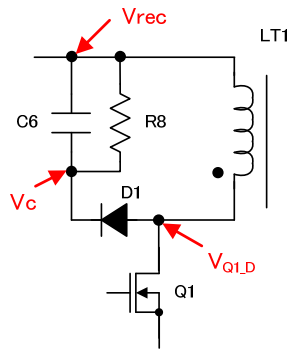
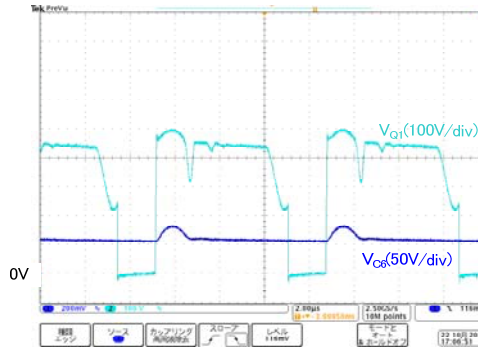

Fig.40 Snubber circuit
Fig.41 MOSFET drain voltage and snubber circuit voltage
The snubber circuit prevents the external power MOSFET from being destroyed by the energy stored in the transformer leakage inductance when the external power MOSFET is turned off. The snubber circuit used in this example is shown in Fig. 40, and the MOSFET drain voltage and the snubber circuit voltage when the MOSFET is off are shown in Fig. 41.
As shown in Fig. 41, the drain voltage rises steeply when the MOSFET is turned off, but the snubber circuit limits the drain voltage rise and prevents destruction of the MOSFET.
In an isolated flyback circuit, the flyback voltage that occurs during MOSFET off time and the snubber voltage are applied to the MOSFET in addition to the AC input. (Refer to Fig. 41.) The maximum voltage V_{Q1} that is applied is given by Equation (30), and thus a product with a rated voltage higher than that must be selected. In addition, using a MOSFET with a small on-resistance can reduce MOSFET loss and improve efficiency.